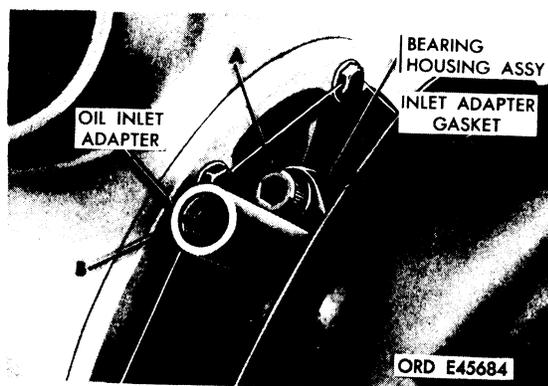

FIGURE 11. REMOVING OR INSTALLING OIL INLET ADAPTER - TURBOCHARGER 7748900
for the turbochargers. The sequence of instructions ((1), (2), and (3)) for figures 11 through 39 indicates the sequence of instructions to be followed for disassembly operations.
b. Assembly Instructions. Paragraphs 36 through 50 describe only those assembly operations which cannot be accomplished by merely reversing the sequence of and procedures for disassembly. Where the assembly instructions are the reverse of disassembly instructions, reference is made to the pertinent disassembly instructions. The sequence of disassembly instructions ((1), (2), and (3)) for each illustration should be performed in reverse order ((3), (2), and (1)) in order to perform the assembly procedure.
a. Oil Inlet Adapter. Refer to figure 11.